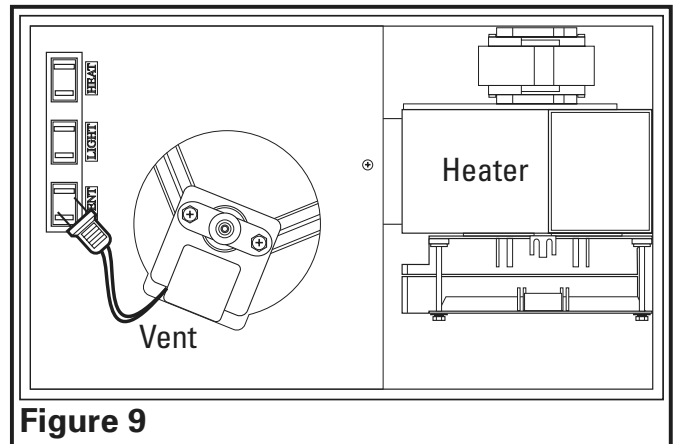

Figure 9
2. Insert the plug from the heating unit into the receptacle marked "HEAT", and the plug from the fan into the receptacle marked "VENT" (**Figure 9**).
4. Install light reflector into grill by lining up the posts on grill with the holes in light reflector (**Figure 11**). Raise light reflector and grill up to housing and insert plug from light into receptacle marked "LIGHT" (**Figure 9**).